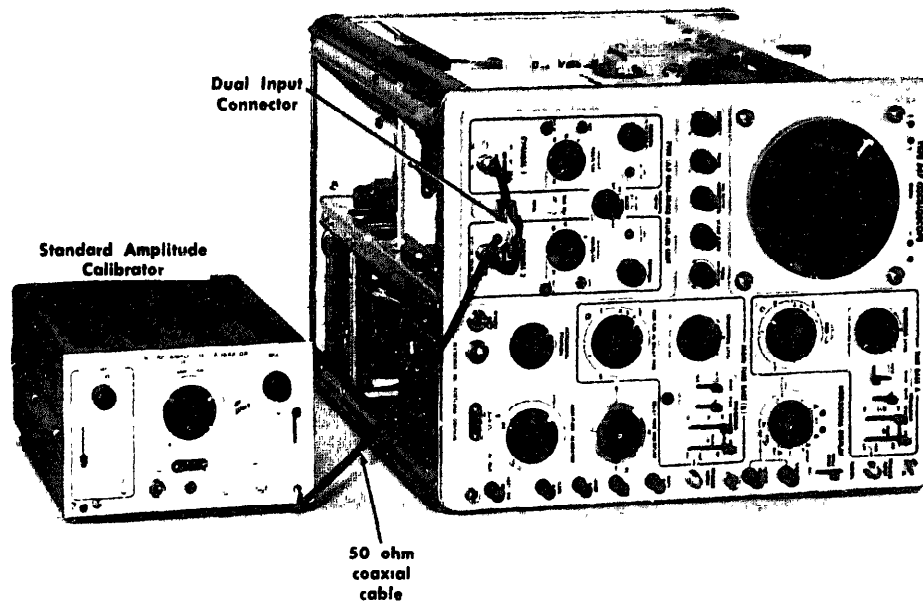

Fig 7-6 Initial equipment setup for steps 5 through 16.
- a. Equipment setup is shown in Fig 7-6
- b. Apply a 0.2 volt calibrator signal from the Standard Amplitude Calibrator to both INPUT 1 and INPUT 2 connectors through a 50 ohm coaxial cable and the Dual Input Coupler (See the note after item 2 in Equipment Required)